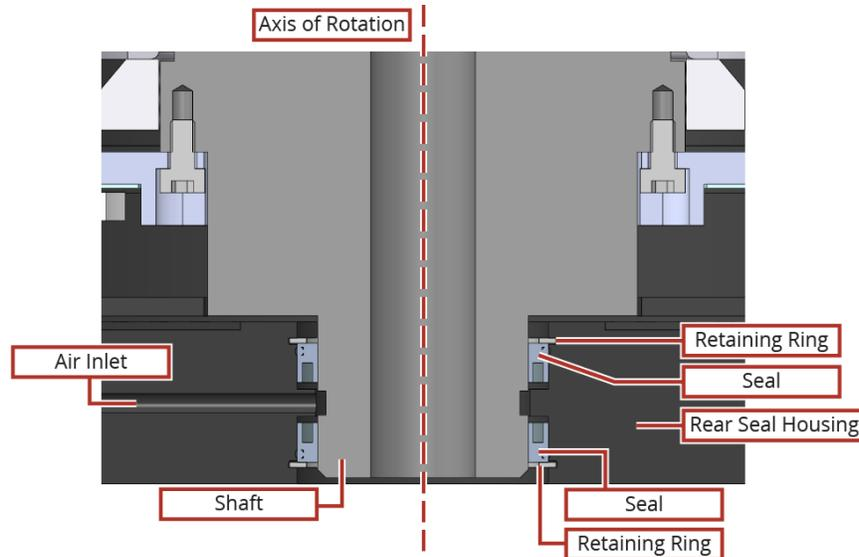

Figure 4-5: Cross-section View of Rear Seal Showing Seal Orientations
7. Lubricate the new seals with o-ring lubricant (see Section 4.2.) and press them into the rear seal housing. Note the orientation of the seals in Figure 4-5. Check to make sure that the seals are seated completely by running a fingernail along the edge. If the seal is seated improperly a leak may result.